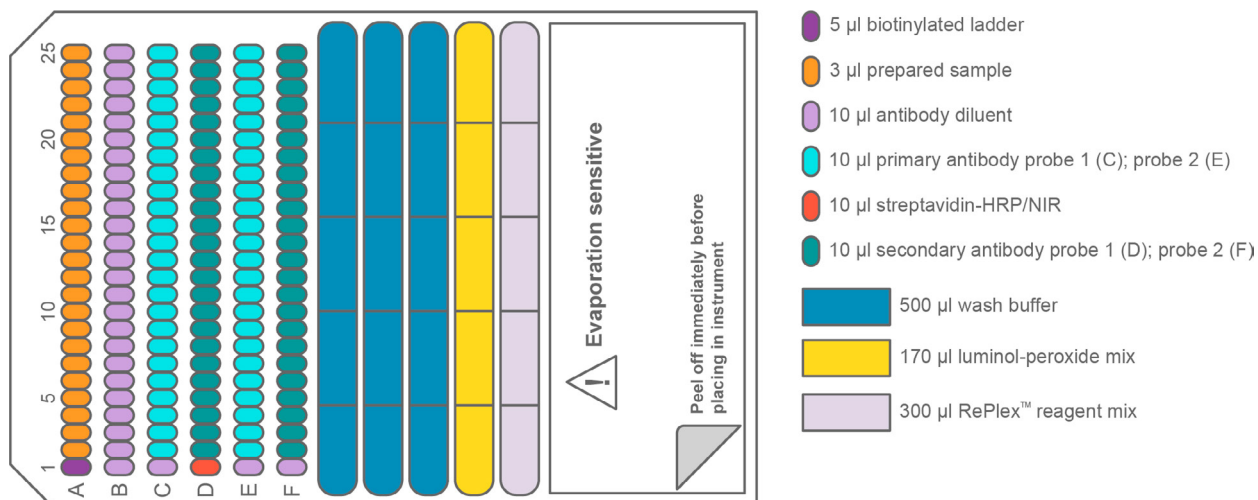

Figure 3: How to fill the Simple Western Jess plate for RePlex chemiluminescence analysis.
Equip ASSIST PLUS with the 0.5-300 µl D-ONE, and run the VIALAB program 'Jess_plate_setup_RePlex'. D-ONE and ASSIST PLUS with 12.5 µl long, sterile, filter GRIPTIPS transfers 10 µl of antibody diluent from a 2 ml tube in position B1 (**Figure 2**, lavender) to wells B1-B25, C1, E1 and F1 of the Jess plate (**Figure 3**) in position C. A 1 µl pre- and post-dispense guarantees precise pipetting while preventing bubble creation during dispensing. By automatically changing GRIPTIPS between different reagents or samples, D-ONE transfers 10 µl of primary antibody probe 1 from a 1.5 ml microcentrifuge tube in B2 (**Figure 2**, light green-1) to wells C2-C25 (**Figure 3**) of the Jess plate in position C (**Figure 4a**). From the second 2 ml screw cap vial in B1 (**Figure 2**, red), D-ONE transfers 10 µl of streptavidin-HRP/NIR to well D1 (**Figure 3**). Wells D2 to D25 (**Figure 3**) are filled with 10 µl secondary antibody probe 1 from a 1.5 ml microcentrifuge tube in B2 (**Figure 2**, green-1). 10 µl primary antibody probe 2 from position B2 (**Figure 2**, light green-2) is transferred to wells E2 to E25 (**Figure 3**), and 10 µl secondary antibody probe 2 from B2 (**Figure 2**, green-2) is transferred to wells F2 to F25 (**Figure 3**).
With 300 µl sterile, filter GRIPTIPS, D-ONE transfers 500 µl of wash buffer (**Figure 2**, blue) from the 25 ml reservoir on position A to the Jess plate compartments in 2 steps (**Figure 4b**), as indicated in **Figure 3**. A slow speed (5) prevents bubble creation during buffer dispensing. Afterwards, 170 µl of luminol-peroxide mix is transferred from the 2 ml tube in B1 (**Figure 5**, yellow), and 300 µl of RePlex reagent mix from another 2 ml tube in B1 (**Figure 5**, pink) to the compartments indicated in **Figure 3**. D-ONE then transfers the RePlex reagent mix in 2 steps, with a pre- and post-dispense of 10 µl to prevent bubble creation during dispensing.
5 µl of biotinylated ladder is transferred from a 0.5 ml microcentrifuge tube in position B3 (**Figure 2**, violet) to well A1 (**Figure 3**). As indicated by the arrow in **Figure 2**, D-ONE transfers 3 µl of prepared sample (**Figure 2**, orange) from each 0.5 ml microcentrifuge tube in positions B4 to B6 (**Figure 2**, orange) to wells A2-A25 (**Figure 3**). Fast dispensing (speed 10) increases the accuracy for small volumes. The pipette then instructs the user to centrifuge the plate for 5 minutes at 2500 rpm, before proceeding with Simple Western Jess protein separation and immunodetection.